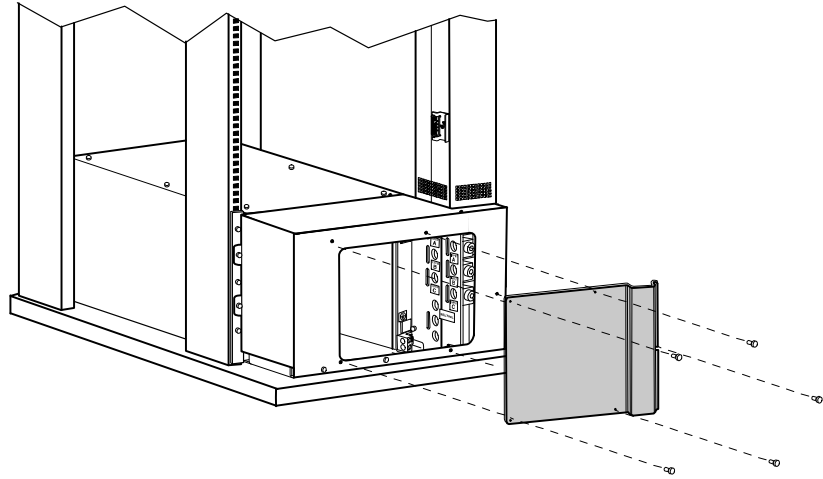

Figure 31. Removing the Wireway Access Cover (Bottom Entry Rack Shown)
1. Remove the five screws on the wireway access cover and retain. Remove the cover and retain. See Figure 31.